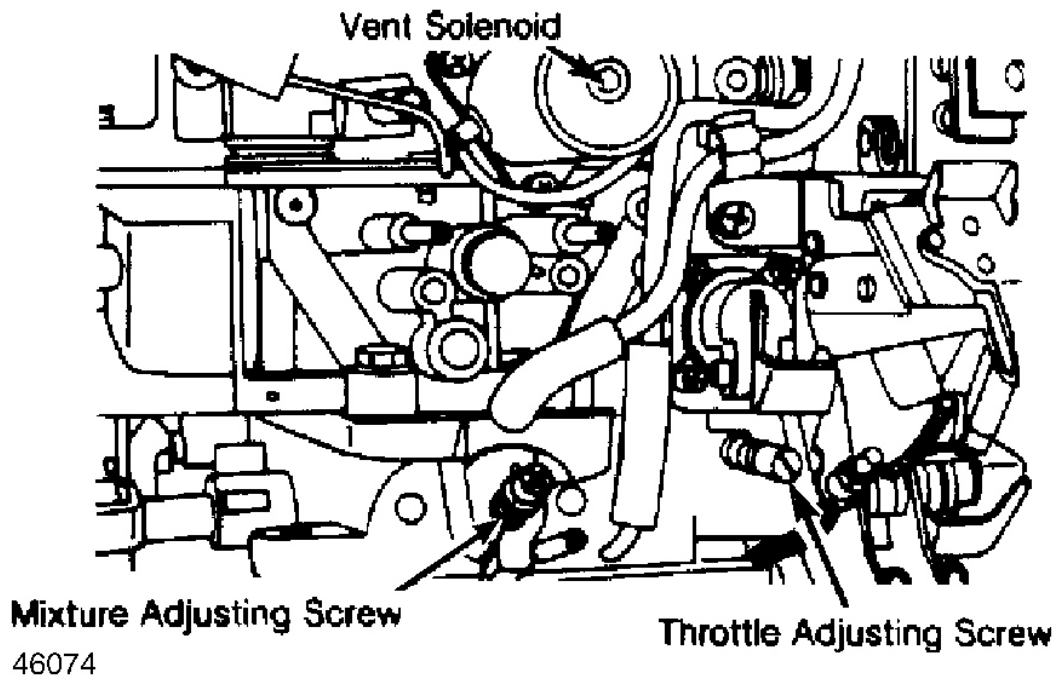

Fig. 7: Carburetor Adjusting Screw Locations
3. To adjust idle mixture, set idle speed to idle set specification by turning throttle set screw (automatic transmission in "N"). Set idle speed to highest RPM obtainable by turning mixture screw. Reset idle speed to idle set specification by turning throttle screw. See **Fig. 7**.